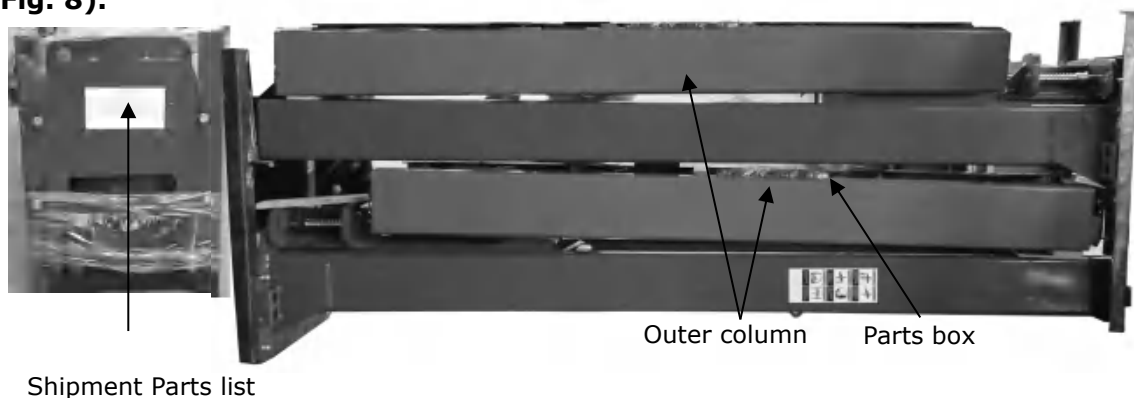

Fig. 8
2. Move the lift aside with fork lift or hoist, and open the outer packing carefully (See Fig. 8).